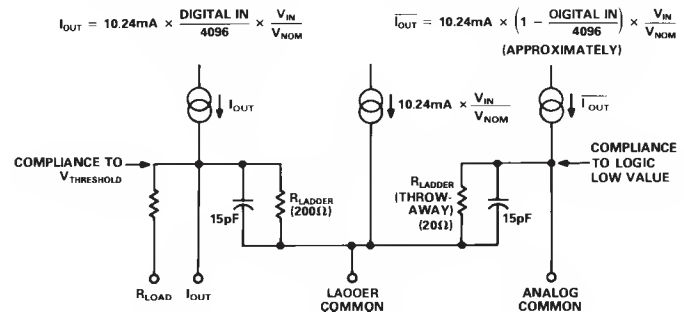

Figure 4. Equivalent Output Circuit
1Measured in  $I_{OUT}$  mode. Specified at nominal 5 V full-scale reference.2Measured in  $V_{OUT}$  mode, unless otherwise specified. Specified at nominal 5 V full-scale reference.3Total resistance. Refer to Figure 4.4At the major carry, driven by HCMOS logic.5 $V_{OUT} = 1$  V p-p,  $V_{IN} = 10\%$  to  $110\%$ , 100 kHz. Digital Input All 1s.6 $V_{IN} = 200$  mV p-p, 1 MHz Sine Wave. Digital Input all 0s. See Figure 20.7Measured at  $15$  V  $\pm 10\%$  and  $12$  V  $\pm 10\%$ .Specifications shown in **boldface** are tested on all production units at final electrical test.
The AD 668 has an output compliance range of -2.0 V to +1.2 V (with respect to the LCOM pin). The current steering output stages will be unaffected by changes in the output terminal voltage over this range. However, as shown in Figure 4, there is an equivalent output impedance of 200  $\Omega$  in parallel with 15 pF at the output terminal, producing an equivalent error current if the voltage deviates from the ladder common. This is a linear effect which does not change with input code. Operation beyond the maximum compliance limits may cause either output stage saturation or breakdown, resulting in non-linear performance. The positive compliance limit is not affected by the positive power supply, but is a function of the output current and the logic threshold voltage at  $V_{TH}$ , Pin 13.
The internal wiring and pinout of the AD 668 are dictated in large part by current management constraints. When using low impedance, high current, high accuracy parts such as the AD 668, great care must be taken in the routing of not only signal lines, but ground and supply lines as well. The following accounting provides a detailed description of the magnitudes and signal dependencies of the currents associated with each of the part's pins. These descriptions are consistent with the functional block diagram as well as the equivalent circuits provided in Figures 4, 5, and 6.
**IOUT** – the output current. In the current output mode with this node tied to a virtual ground, a 10.24 mA nominal full scale output current will flow from this pin. In the voltage output mode, with RL grounded, half of the output current will flow out of RL and the other half will flow out of LCOM. External resistive loading will cause current to be divided between LCOM, RL, and IOUT as Figure 4 suggests.
**ACOM** - as indicated in Figure 4, the current flowing out of this pin is effectively the complement of  $I_{OUT}$ , varying with both analog and digital inputs. Using this current as a signal output is not generally advised, since it is untrimmed and its positive output compliance is limited to the logic low voltage.